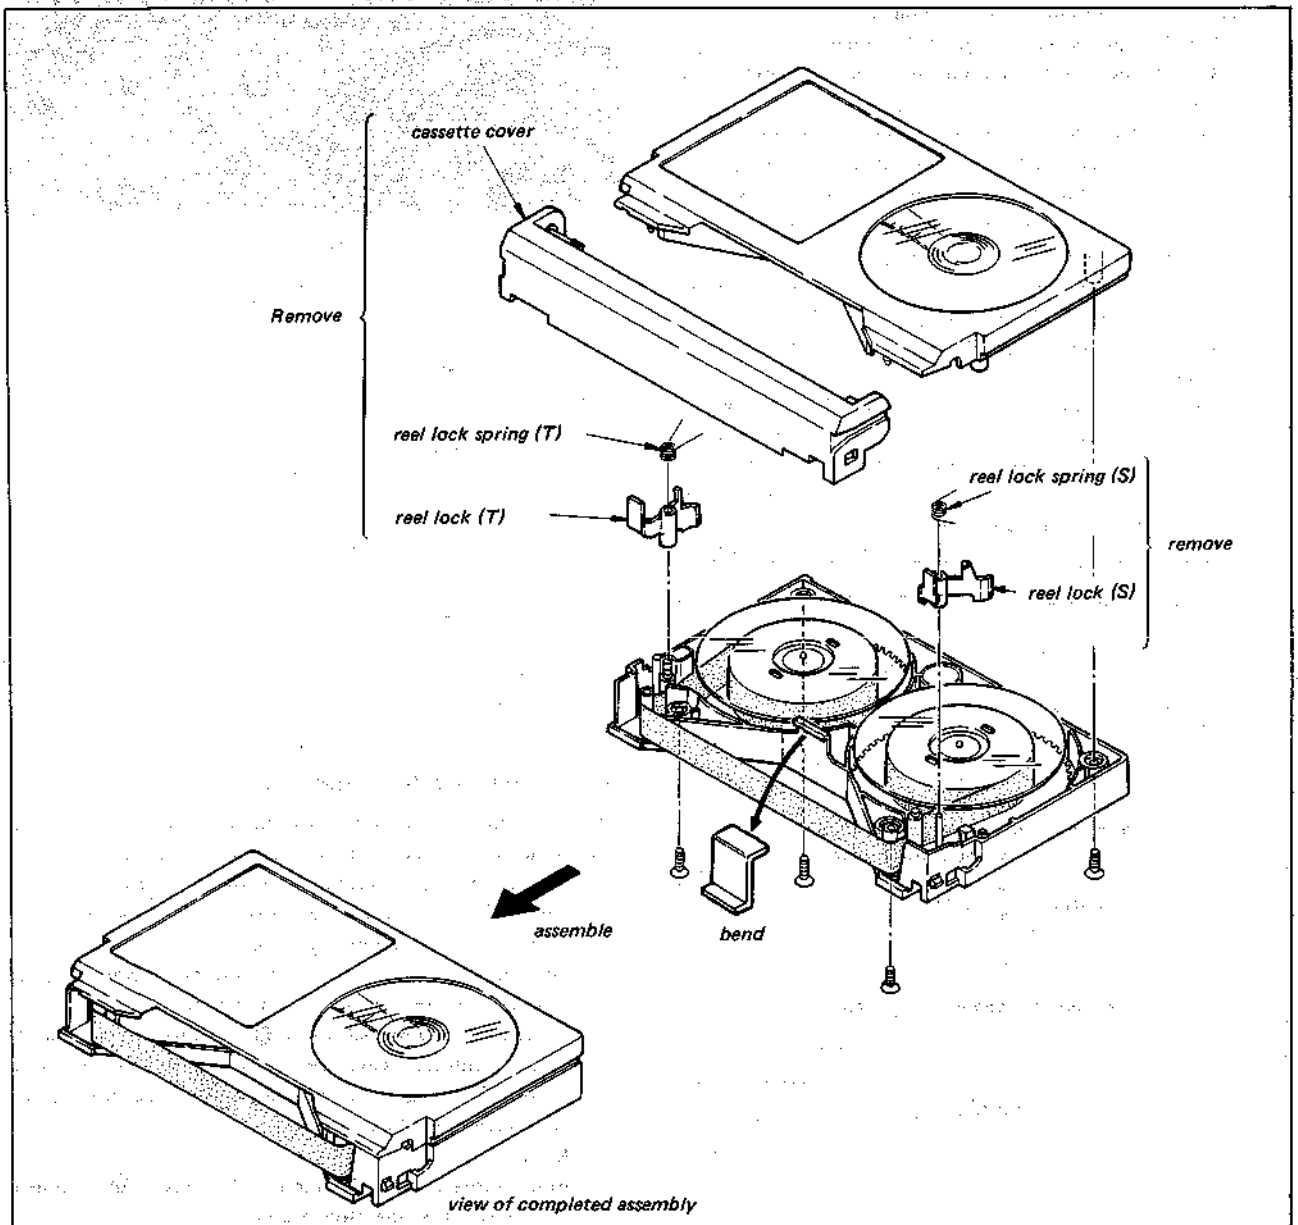

Fig. 4-1.
- 1) Remove the cassette cover of the alignment tape in accordance with Fig 4-1.